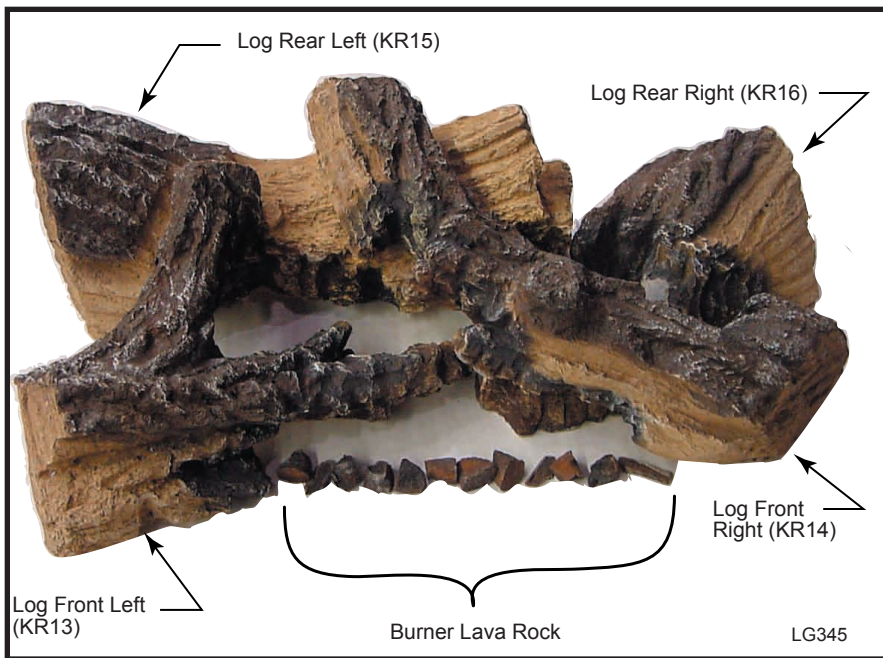

Fig. 27 Correct log placement for RFSDV24.
**For Model RFSDV24** (Refer to Fig. 27)
6. Place the front right log (KR14) in position by resting the holes under one end of this log located over the knob on the rear left log while the other end of the log set against the right end of the front grate. (Fig. 27)